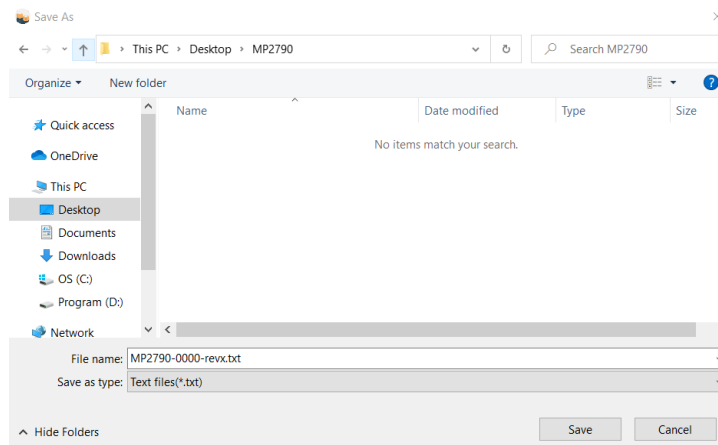

Figure 15: Save the Exported Configuration to Desired Location
- Find a location for the exported file, rename the file if necessary, and click “Save.” The configurations are saved in a text file (see Figure 15).